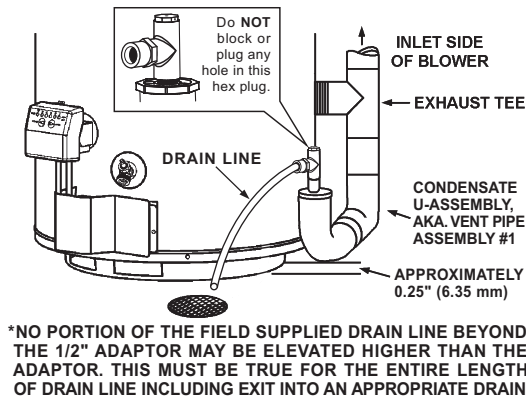
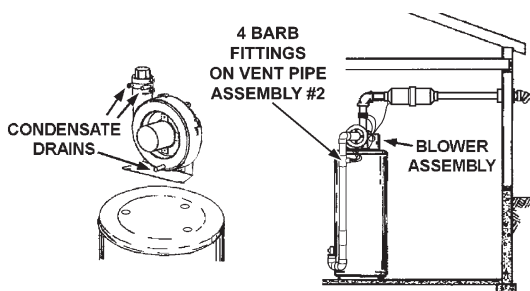

FIGURE 16.
FIGURE 17.
Assemble Vent Pipe Assemblies #1, #2 and #3 (See Figure 1) prior to cementing. The preferred orientation of Vent Pipe Assembly #1 (Condensate U-Assembly) is shown in Figure 16. However this assembly may be rotated to a different orientation as needed for the specific installation requirements. Note the rotational orientation of each part by marking a line several inches long across the joints. The long tube of Vent Pipe Assembly #2 should be approximately vertical. If it is found that either of the two pieces of pipe in Vent Pipe Assembly #2 are too long for proper fit-up, then remove as little material as possible to improve the fit-up. Keep in mind that the pipes will insert slightly further into the elbows when cement is applied as it acts as a lubricating agent. The vertical distance from the bottom of the Condensate U-Assembly to the floor that supports the water heater should be approximately 0.25" (0.64 cm),
see Figure 16. Disassemble the parts and cement back together using the alignment marks. After the cement dries, attach the assembly to the blower and the water heater exhaust using the supplied rubber boots and hose clamps.
3. The blower discharge adaptor is made to accept only straight sections of 2" pipe. To start, a minimum of 2 inches (5.1 cm) of 2" pipe must be attached to the blower discharge, see Figure 17.
4. There will be some installations where condensate will be formed in the horizontal runs of the vent system. This condensate will run into the condensate boot attached to the blower and out the fitting. The water heater is shipped with condensate hose that attaches to the fitting on the condensate boot. No other Tee or fitting is required. See Figures 17, 20 and 21.
This water heater is a condensing unit and requires a drain to be located in close proximity to allow condensate to drain safely. One hose from blower housing, two flexible hoses from blower outlet adaptor, along with another flexible hose from VAA if installed, run to barb fittings on vent pipe assembly #2. Hose is clamped by rubber clips and flexible hoses by a clamp on jacket top cover. See Figure 17. Condensate drains from the unit at the exhaust tee located at the bottom of the unit (see figure 16). Condensate from this water heater is mildly acidic. Please note that some local codes require that condensate is treated by using a pH neutralizing filter prior to disposal.
NOTE: It is important that the field supplied drain lines beyond the 1/2" adaptor of vent pipe assembly #1 should be installed continuously tilted downward toward an appropriate drain. See Figure 16. If these instructions are not followed or if condensate drain line is blocked, water will spill from condensate trap. Do not block the holes in the hex plug on top of a small tee in vent pipe assembly #1. As with every water heater installation, a drain pan should be used to prevent water damage to surrounding area. If necessary, a condensate pump with an incorporated reservoir may be used to pump water to an appropriate drain. To avoid condensate spillage, select a pump with an overflow switch.
Condensate is likely to form in the venting system attached to this water heater. The vent pipe should be sloped downward away from the blower assembly (not less than 1/8" (3.2 mm) nor greater than 1/2" (12.7 mm) per foot (30 cm) maximum). If the vent piping is vented level or sloped upwards away from the blower assembly, then adequate means for draining and disposing of the condensate needs to be made by the installer. Two 3/8" condensate hoses should be connected to the built in drain ports of blower outlet adaptor. If a VAA is installed, a 3/8" condensate hose should be connected to the barb fitting on it; otherwise the unused barb fitting on vent pipe assembly #2 should be plugged with one of the break-away plugs. See Figure 17.
3. Condensate drains from three locations on blower assembly. See Figure 17. One flexible hose runs from bottom of blower housing; two run from the ports of rubber connector at the outlet of blower. All these three condensate hoses are connected to barb fittings at vent pipe assembly #2. The hose from bottom of blower housing is clamped by two clamps and the two hoses from rubber connector are harnessed by another clamp. Make sure there is no kink or twist.